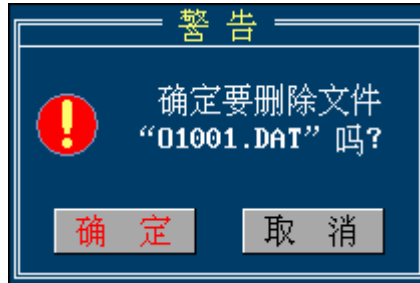

Figure 4-12 File Delete Confirmation
- 4) Press <FDEL> key, then it will pop up a dialog, as figure 4-12 shown.